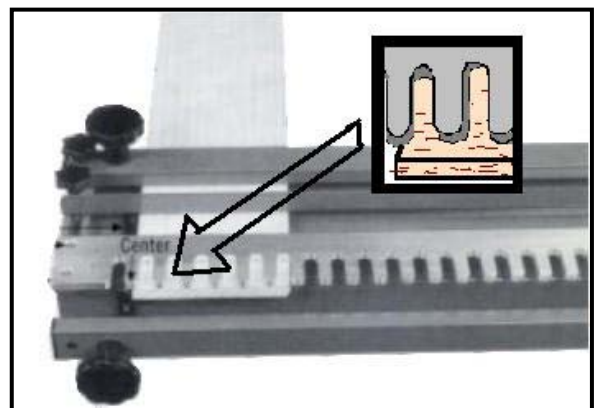

Figure-4
3. Set the horizontal stop so that the edge of the work piece comes up in the center of one of the template fingers. See Figure-4